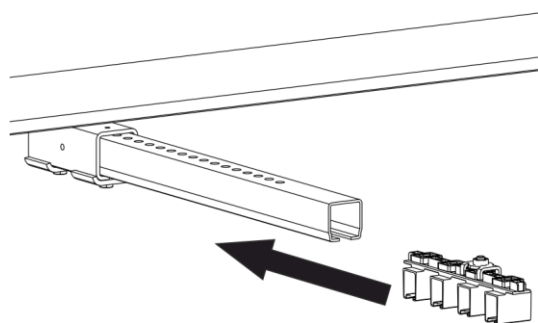

Fig. 65: Slide the compact hanger clamps onto the cross arm/C-rail
- Slide the compact hanger clamp onto the cross arm/C-rail (see Fig. 65). Please refer to the project-specific documents for the exact dimensions.